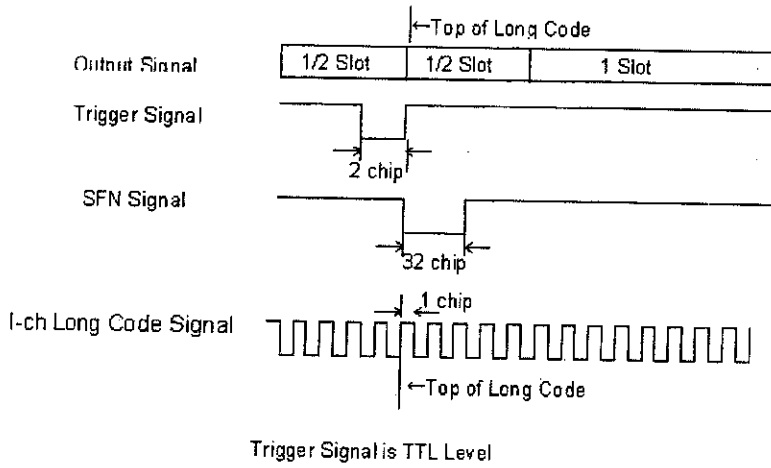

Figure 3-21 Timing Chart of SFN Test Signal
Figure 3-21 is shown timing chart of output signal, SFN and Long code.
2. On the SG5, set the data to generate the signal complied the requirement, refer to Table 3-28 and Figure 3-21.